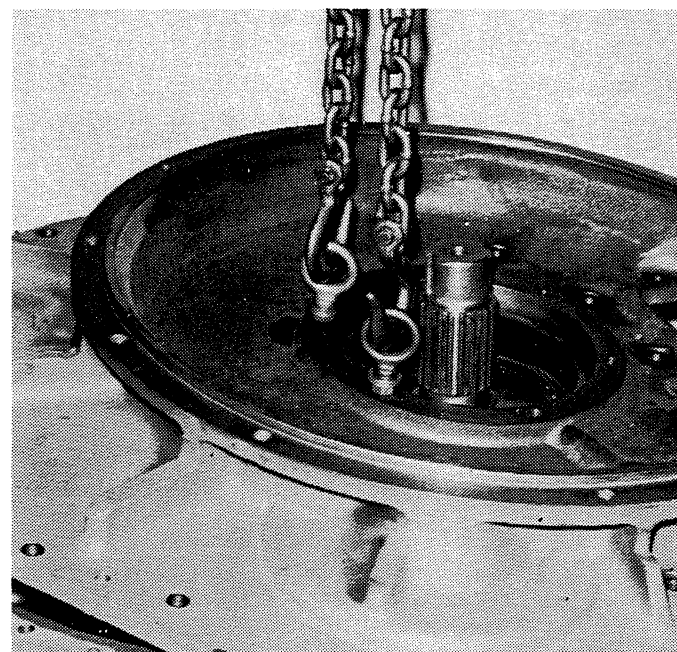

Figure 6-33. Removing or Installing Front Housing.
5. Install eyebolts into the front housing assembly and hoist it from the main housing assembly. See Figure 6-33.